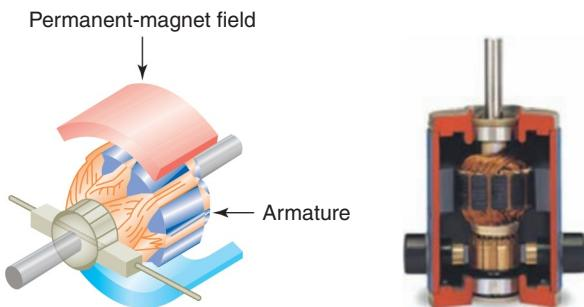

Figure 5-14 Permanent-magnet DC motor.
Figure 5-14 shows a permanent-magnet (PM) DC motor. The motor is made up of two main parts: a housing containing the field magnets and an armature consisting of coils of wire wound in slots in an iron core and connected to a commutator. Brushes, in contact with the commutator, carry current to the coils. PM motors produce high torque compared to wound-field motors. However, permanent-magnet motors are limited in load-handling ability and for this reason used mainly for low-horsepower applications.